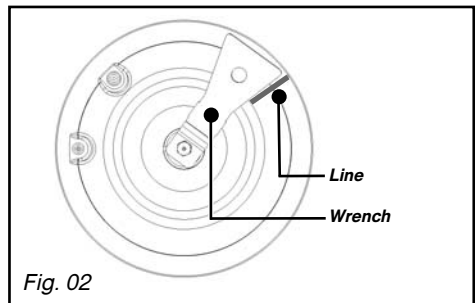

Fig. 02
– **Connection with a reinforced rubber hose with screw-on mechanical** connectors (compliant with the NF D 36-112 standard) whose service life is 10 years (Fig. 02).
- Draw a line on the burner plate using a pencil at the place indicated (Fig. 02).